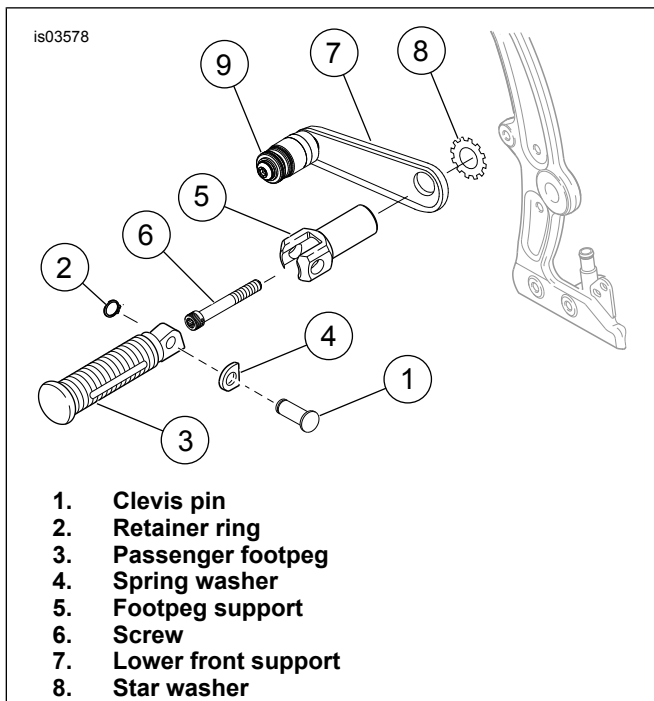

Figure 5. Install Passenger Footpeg
1. See Figure 5. Remove clevis pin (1) and retainer ring (2) securing passenger footpeg (3) and spring washer (4) to footpeg support (5).
See Figure 5. Install passenger footpeg on footpeg support using clevis pin (1), spring washer (4) and retainer ring (2).